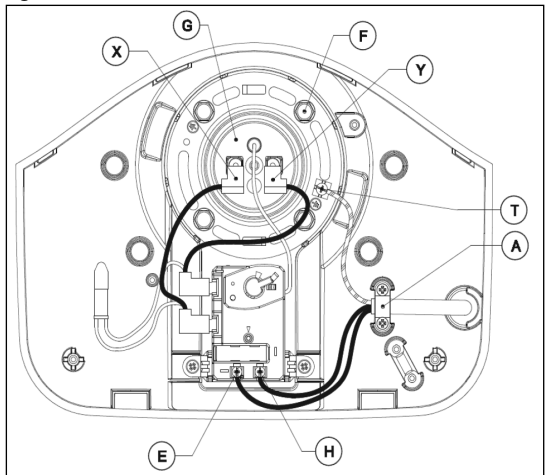

Figure 6 - Open Heater Cover Detail
- Remove the front cover plate. Disconnect terminals X, Y, and T. See Figure 6.
- Unscrew the four (4) heating element retaining nuts (Figure 6, F).
- Remove the element (Figure 6, G).